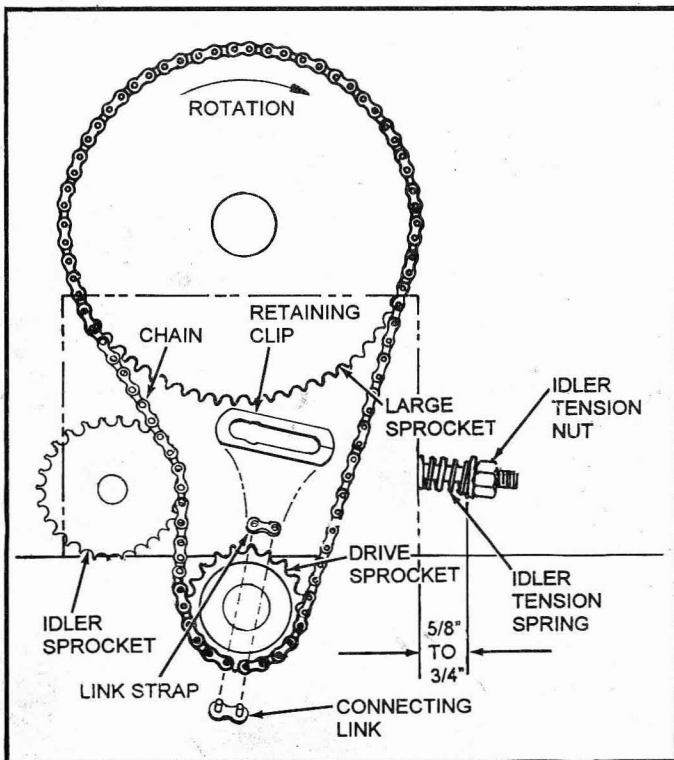

FIG. 13A
- Place chain around large sprocket. (See Fig. 13A)